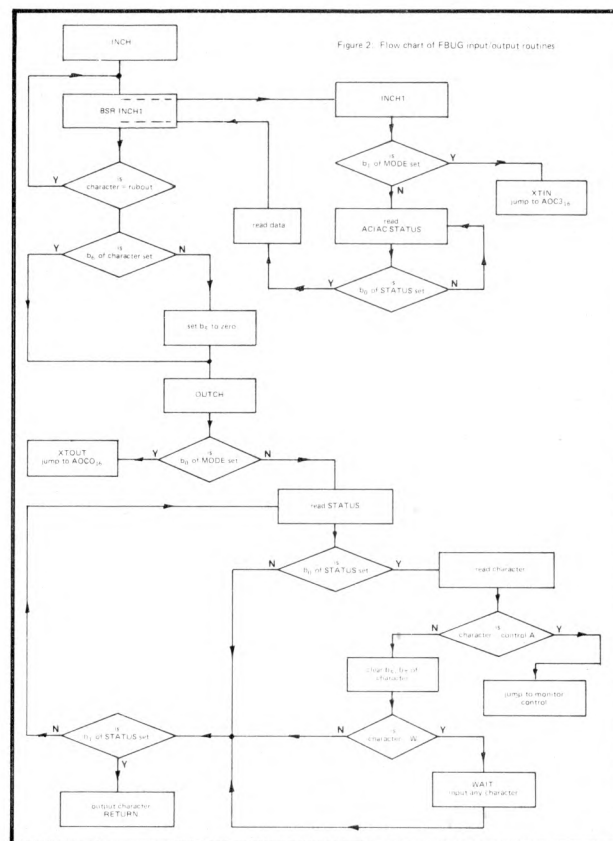

Figure 2
- 5) The **input/output subroutines** used by FBUG have been made as flexible as possible. While writing the monitor it became evident that at some later date a different input/output system might be required to work with the existing monitor. How was this flexibility achieved? Before the monitor attempts to input or output a byte, it examines a byte called MODE which is stored in the scratchpad RAM. If bit 0 of MODE is unset (i.e. b₀ = 0) the normal output routine is used. If, however, bit 0 is set, a jump to location AOCO₁₆ is executed. Thus, to use a new output device, with the existing subroutines of FBUG, a jump to the subroutine which handles the new output device is placed at location AOCO₁₆ and bit 0 of MODE is set to 1. A similar procedure applies to the input subroutine except that bit 1 of MODE is tested, and if set a jump to AOC3₁₆ is executed. The input/output subroutines of FBUG are illustrated in figures 2 and 3 by means of a flow chart and assembly language listing respectively.